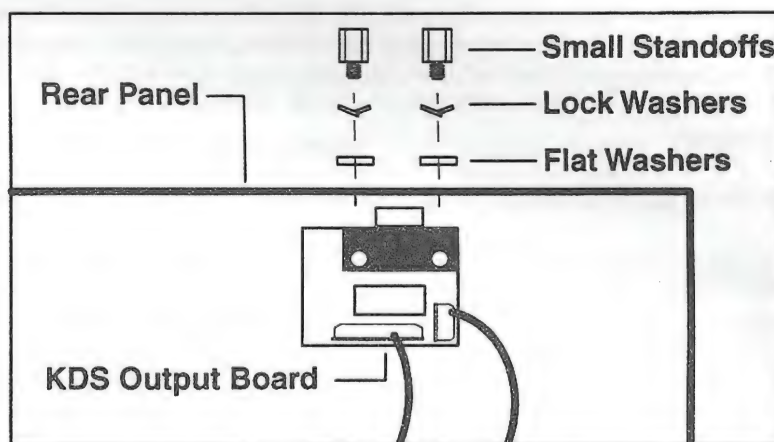

Figure 15. KDS Output Board Installation—K2500R.
20. If this is a rack unit, see Figure 15. Position the KDS Output Board through the rear panel KDS Output hole; the board will only fit through this hole one way. Then use the following items to secure the board to the rear panel: